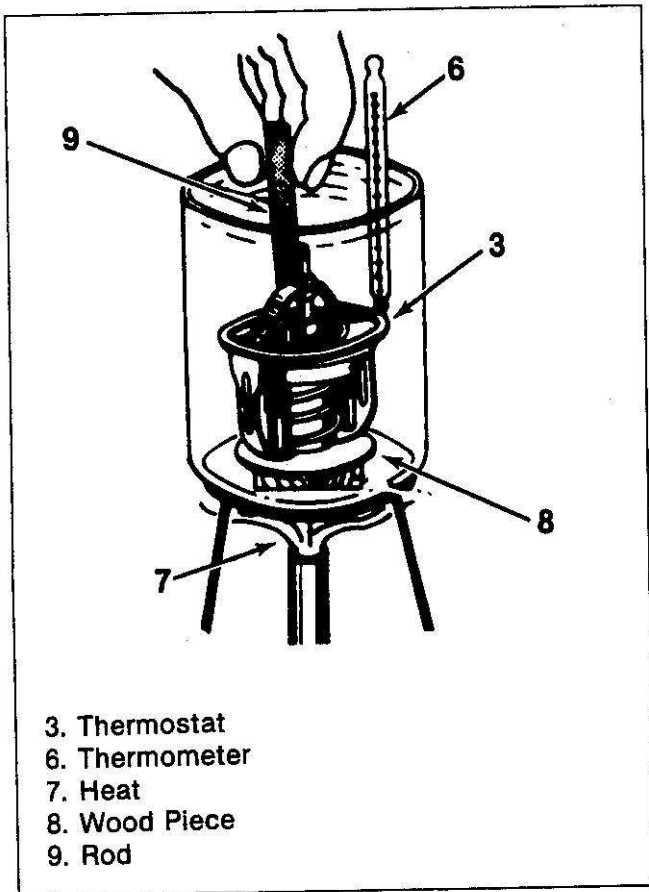

Figure 4. Testing the Thermostat
The thermostat to be sure it's in good condition. The following test should be done: Suspend the thermostat (3) and thermometer (6) in water with the thermometer located close to the thermostat. Be sure the thermostat is placed on the wood piece (8) inside the flask. Agitate the water with a small rod. Apply heat (7) to the water and record both the temperature at which the thermostat begins to open and the temperature at which the thermostat is fully opened (figure 4).